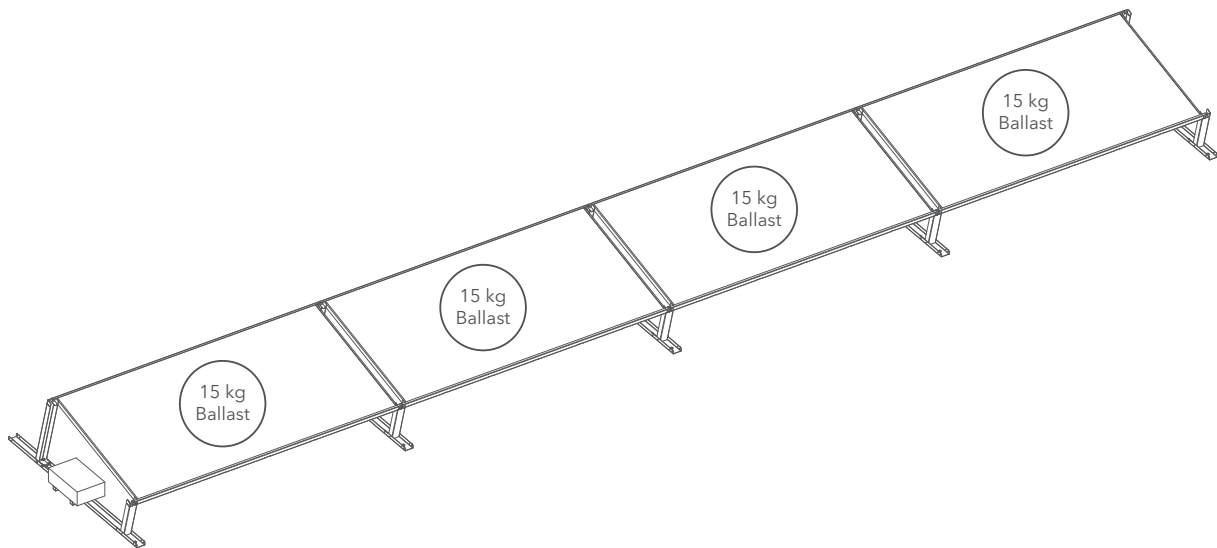

Fig 6. distribution of the ballast on the individual rows of photovoltaic modules.
- 6** The entire structure should be loaded with blocks. Place the blocks on the base of the mounting triangle. For a row of PV panels: 15 kg ballast per panel (Fig. 6).